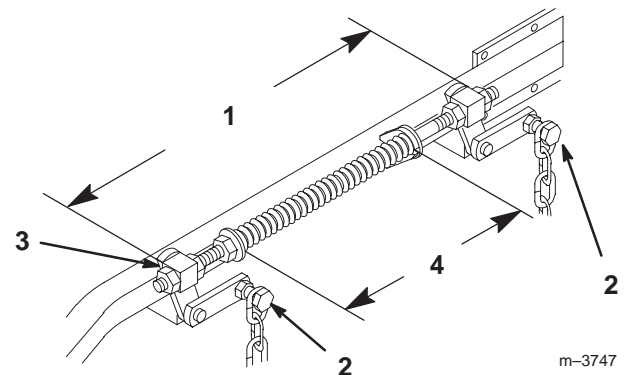

Figure 49
6. Loosen four (4) top chain bolts in slots. Check the length of the rod/swivel assemblies. Distance from outside of rear swivel to outside of front swivel should be 19-17/32" (496 mm) (Fig. 49). Make sure that all four swivels move freely in holes.
8. Lift up on four (4) top chain attachment bolts, in the slots, to take slack out of chains and tighten flange lock nuts. (Deck is still supported by two rear and one front blocks under mower.)
2. Springs are compressed so the distance between the two large washers should be 10-1/4" (260 mm) (Fig. 49).
- Adjust by turning nut in front of each spring (Fig. 49). Clockwise will shorten spring; counterclockwise will lengthen spring.